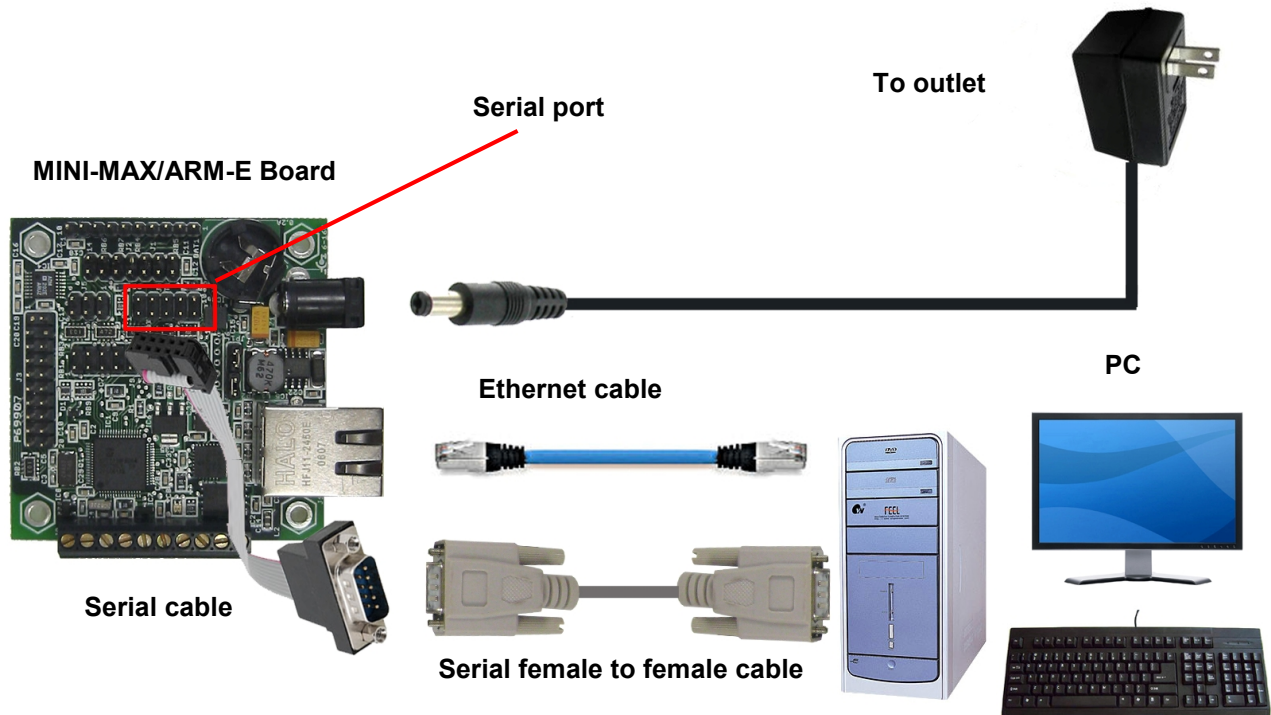

Figure 1
4. Connect the MINI-MAX/ARM-E to the Ethernet port on the PC using the Ethernet cable as shown below on Figure 1.